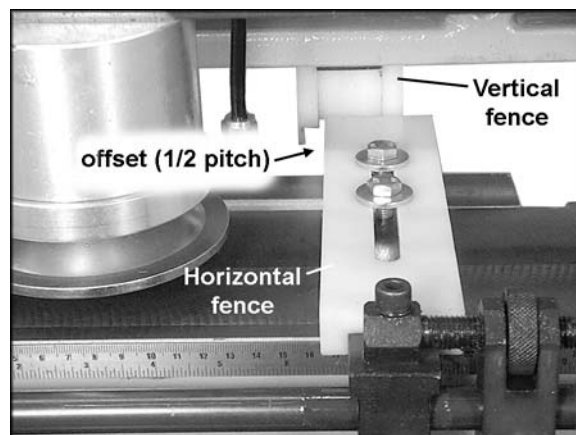

Figure 22
9. Line up the vertical fence with the horizontal fence, then offset the vertical fence by exactly half the pitch of the template bar. See Figure 22.
The polyethylene buffer pads, shown in Figure 22, have slots through which they are secured to the fences by screws. These buffer pads can be re-positioned if needed.
To adjust a buffer pad, loosen the two hex cap screws (shown in Figure 22) with a 13mm wrench. Slide the buffer pad as necessary. Retighten both hex cap screws when finished.